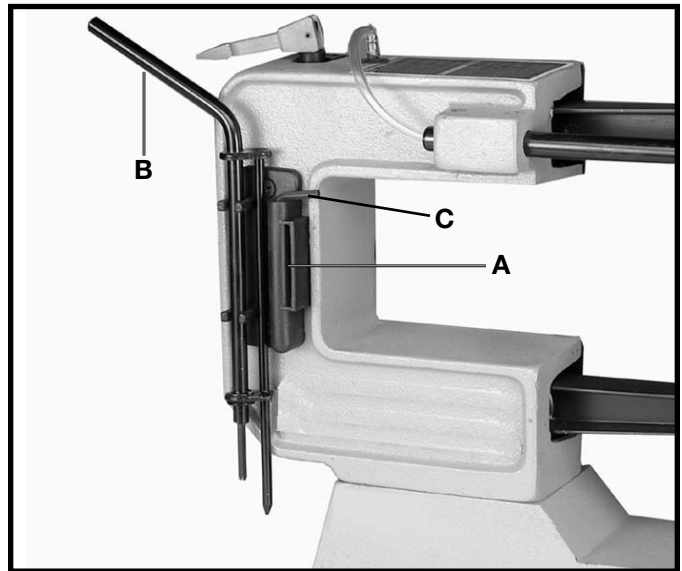

Fig. 13
A convenient wrench and blade holder (A) Fig. 13, is supplied on the left side of the rear casting, which allows you to store the hex wrenches (C), quickset blade changing wrench (B) and extra scroll saw blades when not in use.